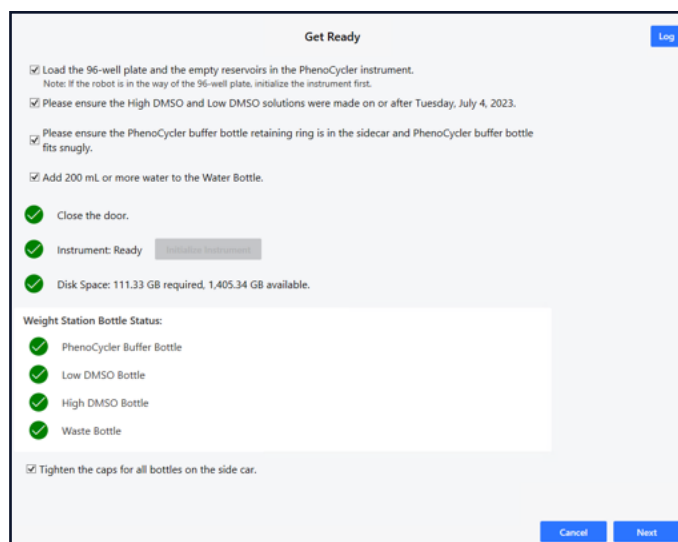

Figure 6.10. Dialog window, Get Ready complete.
12. The Get Ready dialog box is complete. (See Figure 6.10.)